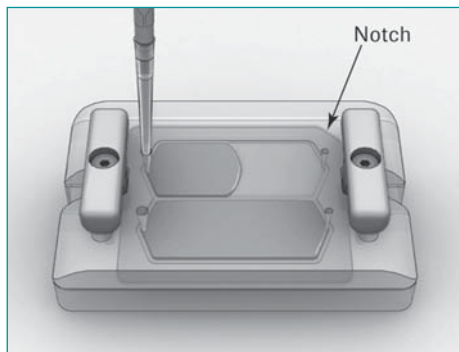

Figure 10: Filling the loading regions of the assembled Bead Deposition Device
- 3 Completely resuspend the beads (avoid creating bubbles) and promptly load the bead suspension onto the first region of the PTP device, through the port hole on the BDD top (see Figure 10). Make sure to use a single, smooth dispensing action to ensure even distribution of the beads over the entire region of the PTP device.
- 6 Very carefully, pipette up and down three times to resuspend the beads completely (avoid spilling or creating bubbles) and promptly load them onto the first region of the PTP device, through the port hole on the BDD top, (see Figure 10).
- 5 Pipette up and down three times to resuspend the beads completely (avoid creating bubbles) and promptly load the bead suspension onto the first region of the PTP device, through the port hole on the BDD top (see Figure 10).